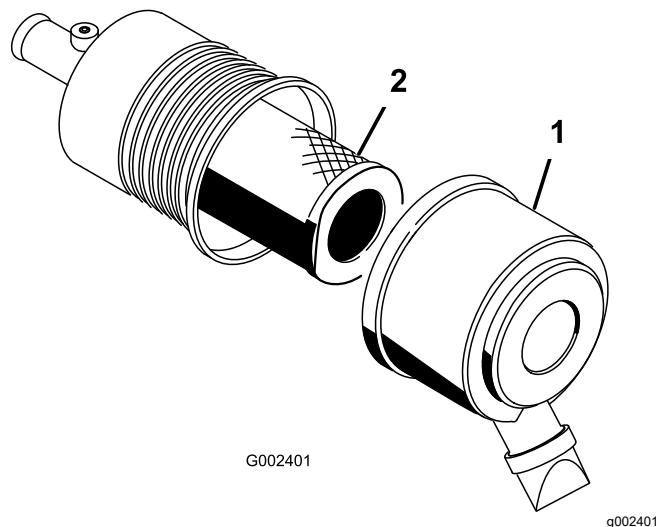

Figure 54
2. Release the latches securing the air-cleaner cover to the air-cleaner body (Figure 54).
3. Remove the cover from the air-cleaner body (Figure 54).
5. Remove and replace the filter (Figure 54).